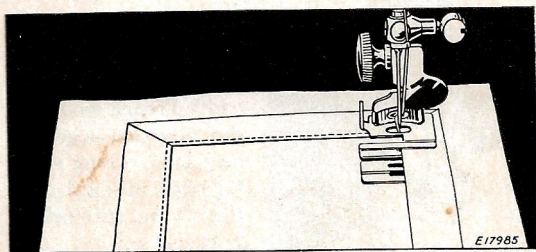

FIG. 56. APPLYING BIAS FOLDED TAPE
- (2) To make square corners, sew to the turning point, remove the tape from the attachment, form the corner by hand, replace the tape and continue stitching. See Fig. 56.
- (3) To space two or more parallel rows, mark the material with a guide line, using a crease, chalk or basting thread.